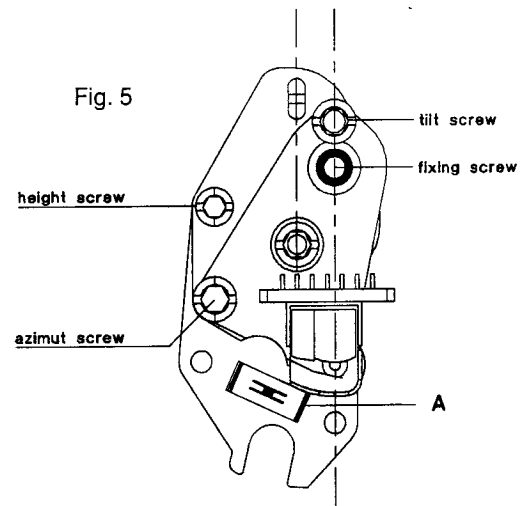

Fig. 5
- Remove fixing spring (A) (Fig. 5).